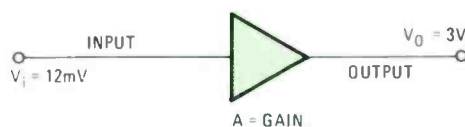

Fig. 1—This is the symbol usually used in schematics to represent any kind of amplifier.
4. (3.75) Figure 1 shows the general symbol used to represent an amplifier in block diagrams. It has an input and an output. The gain is often written adjacent to the symbol.
The gain of the amplifier in Fig. 1 is _____.